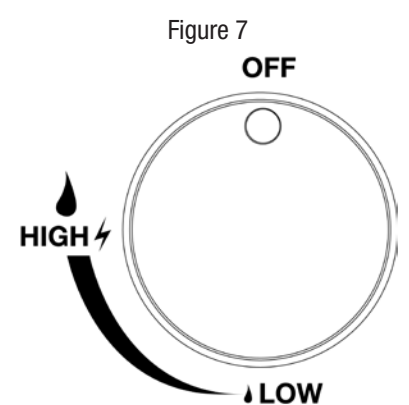

Figure 8
7. If igniter does not light burner, use a lit match secured with the lighting rod provided to light burners manually. Position the lit match near side of the burner. (Figure 8)